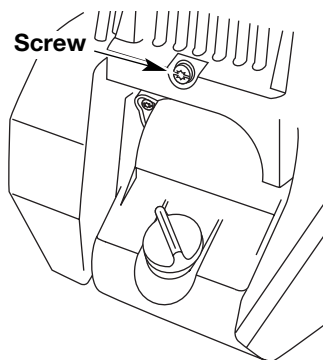

Fig. 35
3. Remove the screw behind the engine cover (Fig. 35).